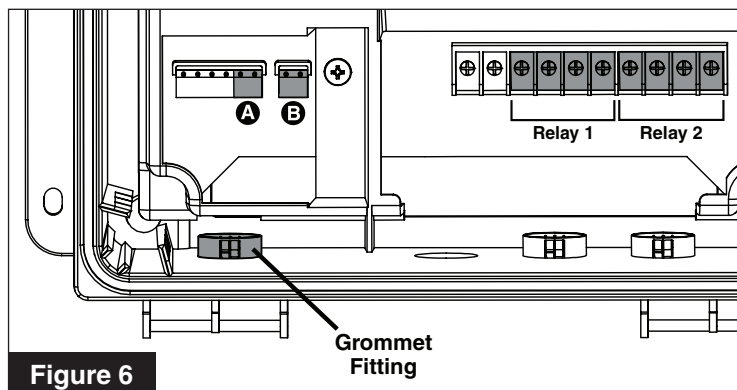

Figure 6
3. Insert the cable into the left-most Grommet Fitting (**Figure 6**) and pull the cable into the wiring compartment.
5. Insert the conductors into the Temperature Sensor terminal ("**A**" in **Figure 6**) and secure the individual wires in their corresponding slots.
5. Insert the cable into the left-most Grommet Fitting (**Figure 6**) and pull the cable into the wiring compartment.
7. Insert the conductors into the Heater Terminal ("**B**" in **Figure 6**) and secure the individual conductors.
A pool light should be wired to Relay 1 or Relay 2 (**Figure 6**).